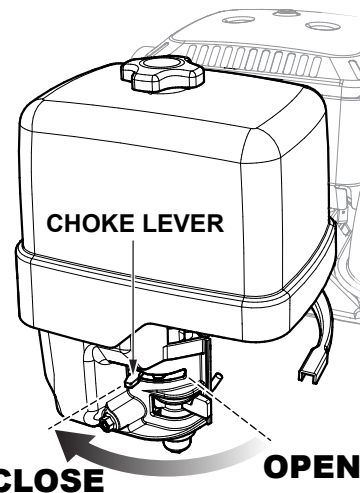

Figure 37. Choke Lever (Closed)
4. If starting a cold engine, place the choke lever in the **CLOSED** position (Figure 37).
7. If the engine has started, slowly return the choke lever to the **CLOSED** position (Figure 37). If the engine has not started, repeat steps 1–6.